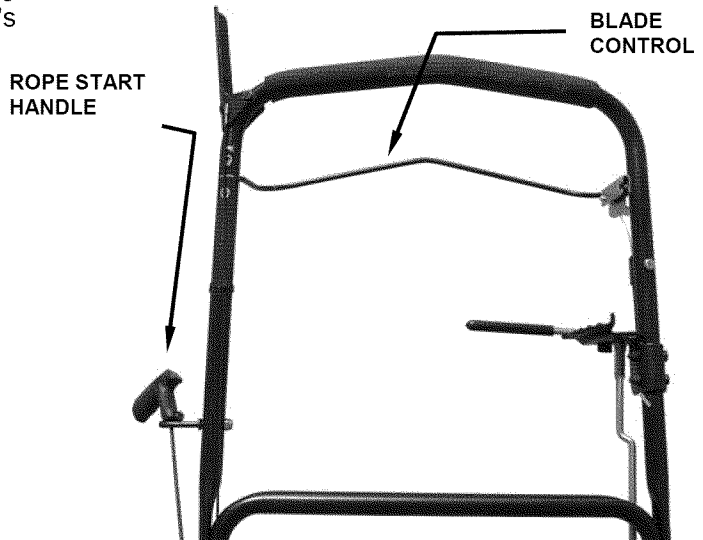

FIGURE 2.4
2. Pull blade control against handle. See Figure 2.4.